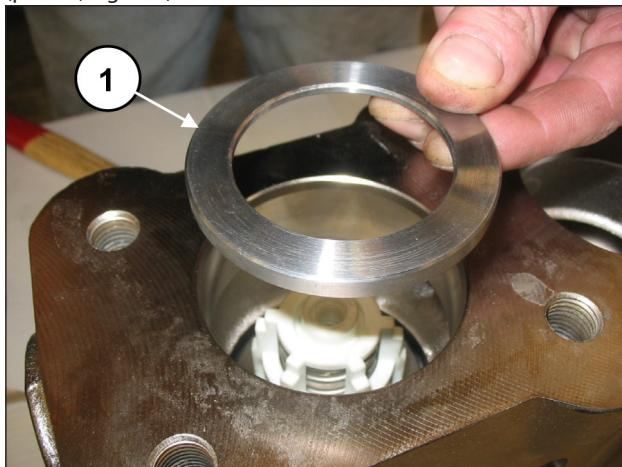
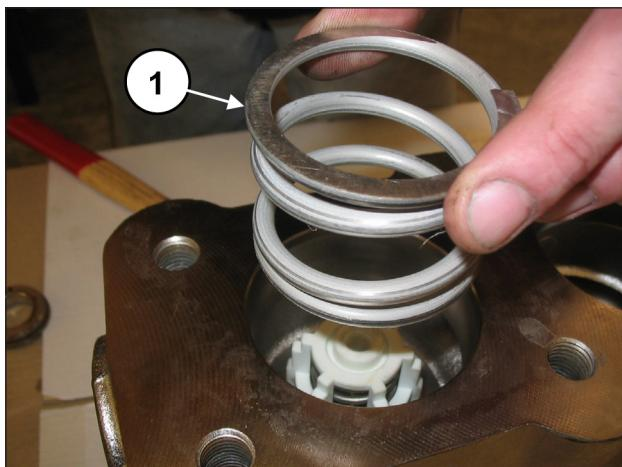

Fig. 129
Fig. 130
Insert the valve housing ring (pos. ①, Fig. 129), and its spring (pos. ①, Fig. 130).